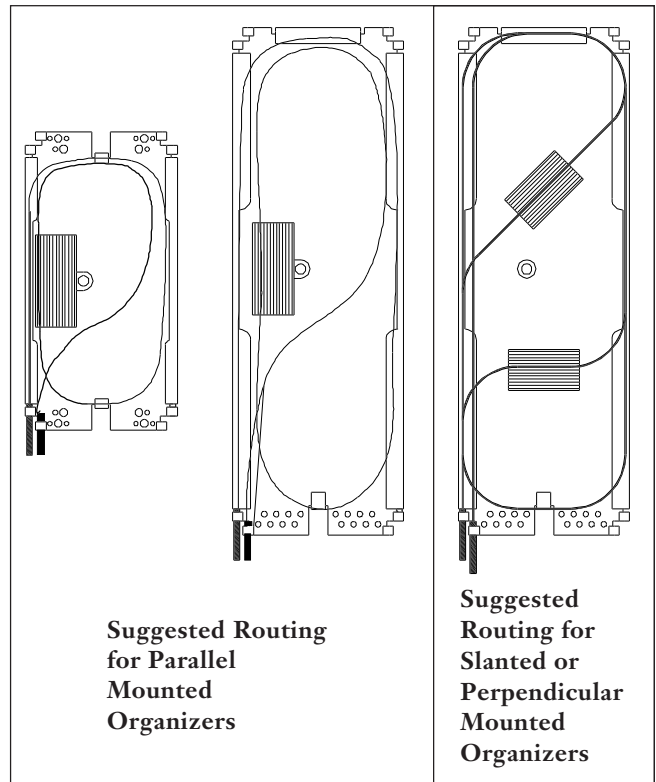
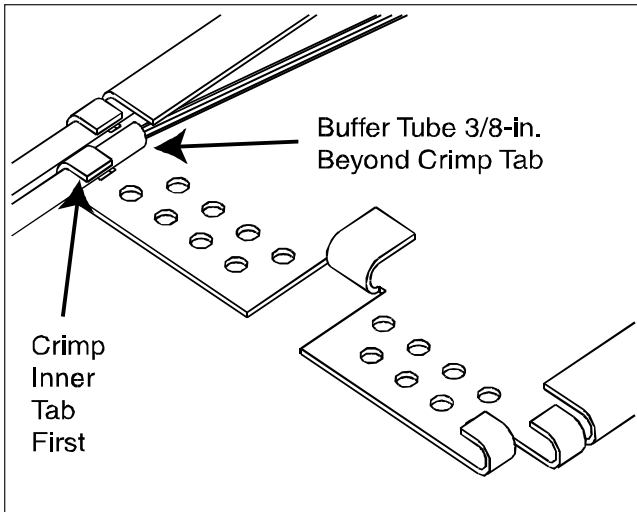

Figure 3
Figure 5
Figure 3 shows the recommended fiber routing for various splice tray configurations. Make sure this routing is compatible with the closure or housing being used before proceeding.
6.2 Select the crimping tab to be used for securing the first buffer tube (Figure 3). Always use the inner tab first (Figure 5).